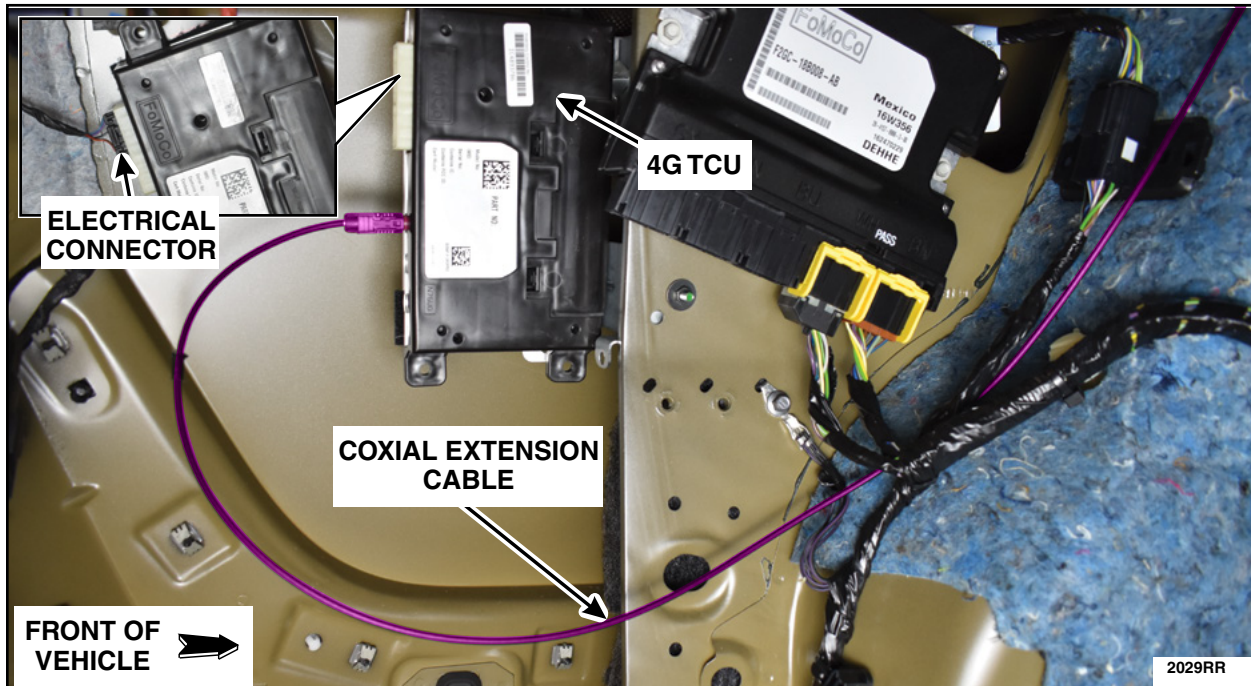

FIGURE 7
8. Connect the electrical connector and the coaxial extension cable. Route the coaxial extension cable behind the wiring harness and upwards towards the rear windshield. See Figure 7.